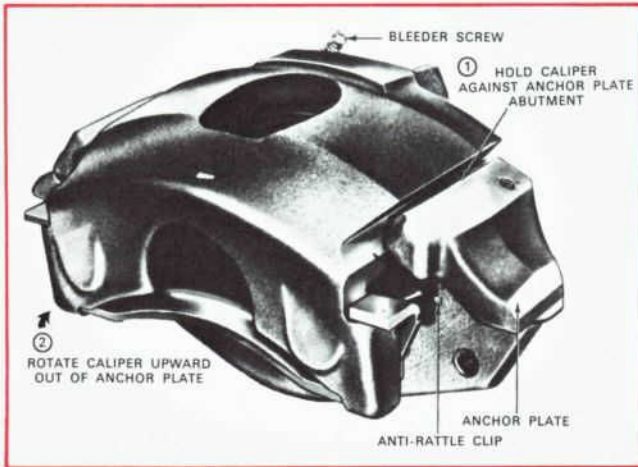

Figure 18—Follow these steps in the order shown to remove the sliding caliper from the rotor.
- Lift the caliper away from the anchor plate by pushing the caliper downward against the anchor plate and rotating the upper end upward out of the anchor plate. See Figure 18.